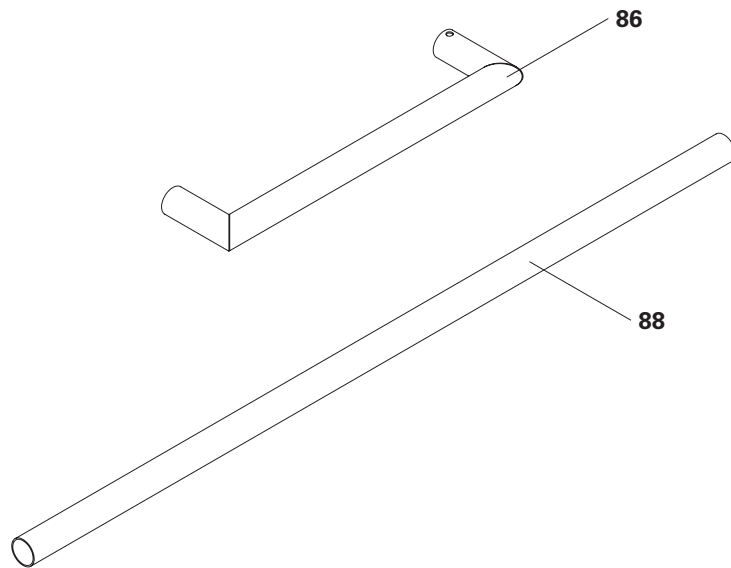

Fig. D1.03
The Handrail Tubes PEHT (88) are supplied in stock lengths of 6 m each. Cutting must be carried out by the installer. (Fig. D1.03)